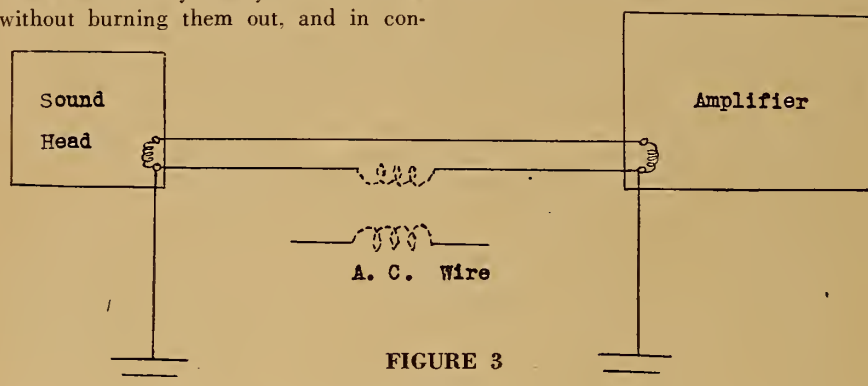

FIGURE 3
Figure 3, however, illustrates one common type of ground problem. In that drawing some a.c. wire, which may be inside or outside an amplifier or other sound unit, is in inductive relationship to a sensitive sound circuit. The induction is indicated by the phantom transformer drawn in dotted lines: if the induction were static, a phantom condenser would take the place of the transformer; or both types of induction might exist simultaneously.
Now, it is obvious from Fig. 3 that if both grounds are at exactly the same potential (both very thoroughly bonded to earth) the secondary of the phantom transformer will be short-circuited, and no hum will be picked up. But if there is any appreciable resistance in the ground clamps (or if the two ground connections are linked by corroded water pipes) current will flow through the unintended resistance by reason of the potential difference induced. A parallel branch for that current may be traced from the right side of the phantom secondary up through the amplifier input
Simple as that remedy may seem by reference to Fig. 3, it is usually complicated in practice because of doubt as to the physical location of the grounds in question. The sound head is often grounded only to the projector base, which in turn is somehow grounded
The sound amplifier, on the other hand, although connected to the projector through conduit or other shielding, (forming a comparatively high resistance conductor) will have a separate ground to a water pipe, and not all projectionists know where that is located. Hence there is usually considerable confusion as to what the real ground relations are, and few projectionists could draw off-hand an accurate duplicate of Fig. 3 as applied to their own equipment, or give much useful data to a sound engineer seeking to cure a hum.
Fast trouble-shooting calls for an exact representation of Fig. 3, applied to the entire sound system, and particularly including all pipe, conduit or flexible shielding taking part in the earth connections. The physical location of every ground clamp attached to a water pipe or other indirect "earth" should also be noted, with such detailed geographical information as will make possible finding and inspecting it at moment's notice.
12. What trouble in Fig. 3 could cause drastic loss of high-frequency volume? Of low-frequency volume? Of both?